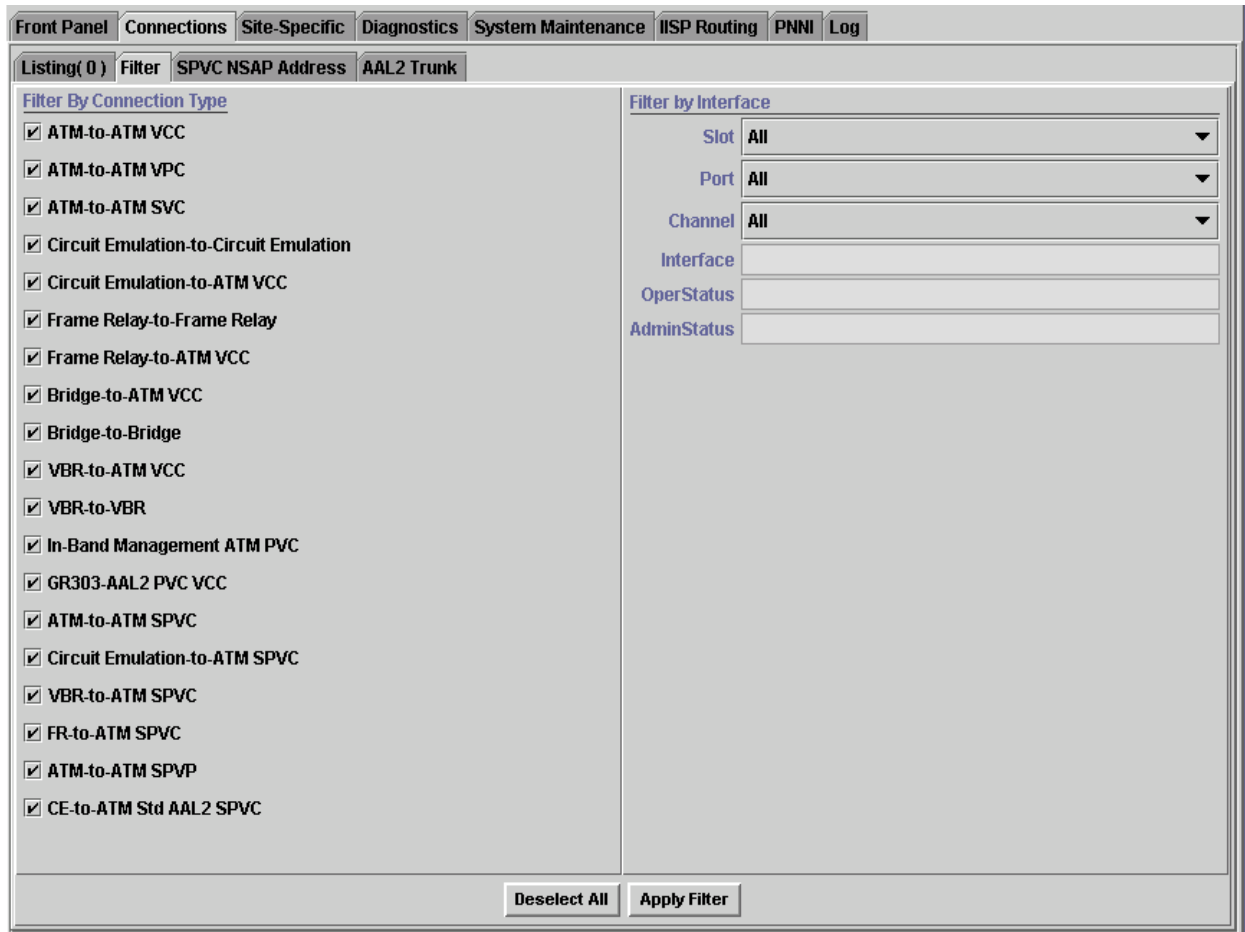

Figure 8-4. Filter Page
This section describes how to filter the Listing page in the Connections tab by choosing the types of connections that should be displayed. You can determine which connection types appear in the Listing page of the Connections tab. This is accomplished by making selections in the Filter By Connection Type and Filter By Interface panels in the Filter page of the Connections tab (see Figure 8-4).
- 2 Click the Filter tab and the Filter page appears (see Figure 8-4).
- 3 In the Filter by Interface panel (see Figure 8-4), select the following values:
- 4 If you want to filter the Listing page further, make selections in the Filter By Connection Type panel (see "This section describes how to filter the Listing page in the Connections tab by choosing the types of connections that should be displayed. You can determine which connection types appear in the Listing page of the Connections tab. This is accomplished by making selections in the Filter By Connection Type and Filter By Interface panels in the Filter page of the Connections tab (see Figure 8-4).").